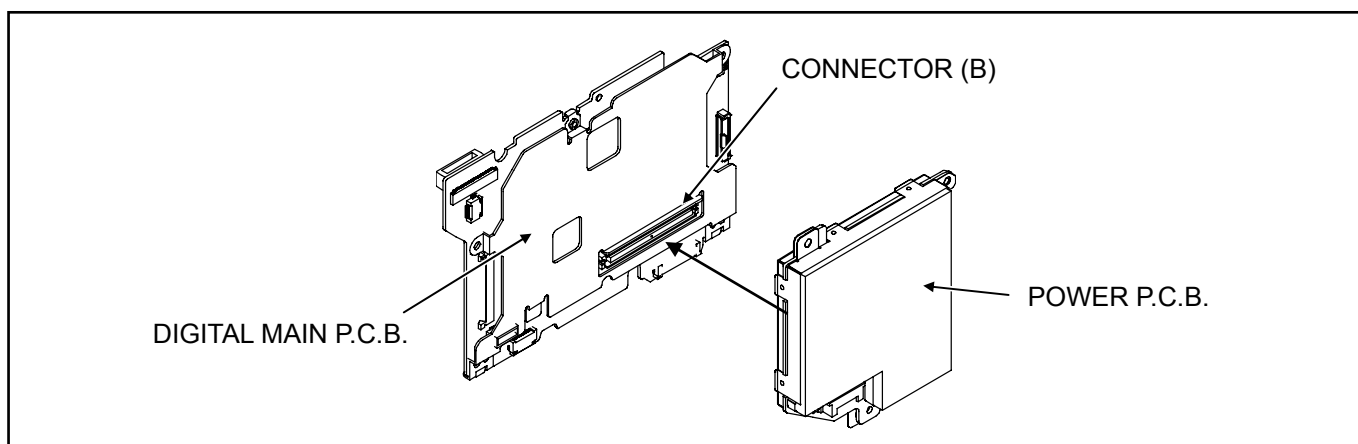

Figure 5-2
3. Disconnect the connector (B) combined with the DIGITAL MAIN P.C.B. and remove the POWER P.C.B. as shown in figure 5-2.